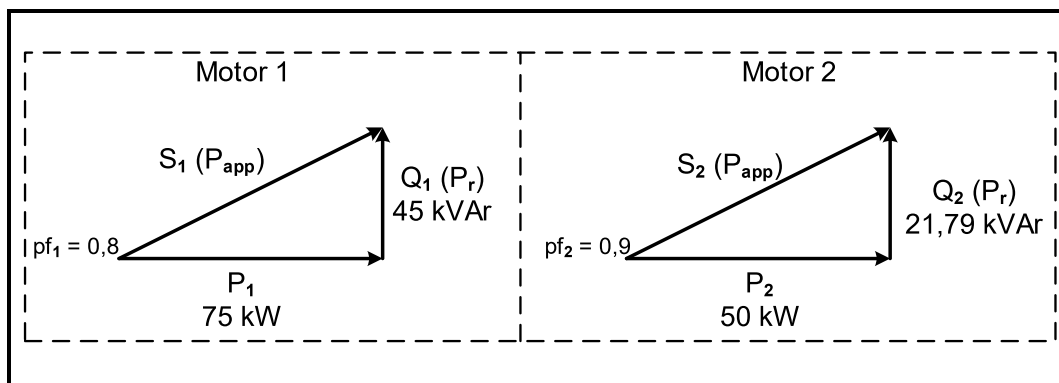

FIGURE 6.4: POWER TRIANGLES
- 6.4 A factory has added an additional three-phase induction motor to their system. The existing motor is a 75 kW three-phase induction motor with a power factor of 0,8. The new induction motor is a 50 kW three-phase induction motor with a power factor of 0,9. Refer to FIGURE 6.4 below and answer the questions that follow.